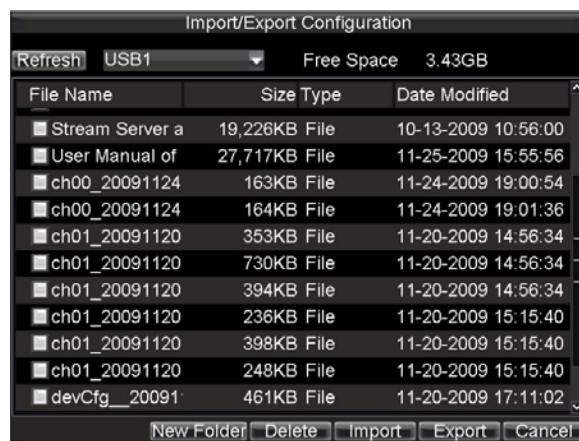

Figure 10. Import/Export Configuration Menu
1. Click Menu > Maintenance > Configuration to enter the Import/Export Configuration menu, shown in Figure 10.